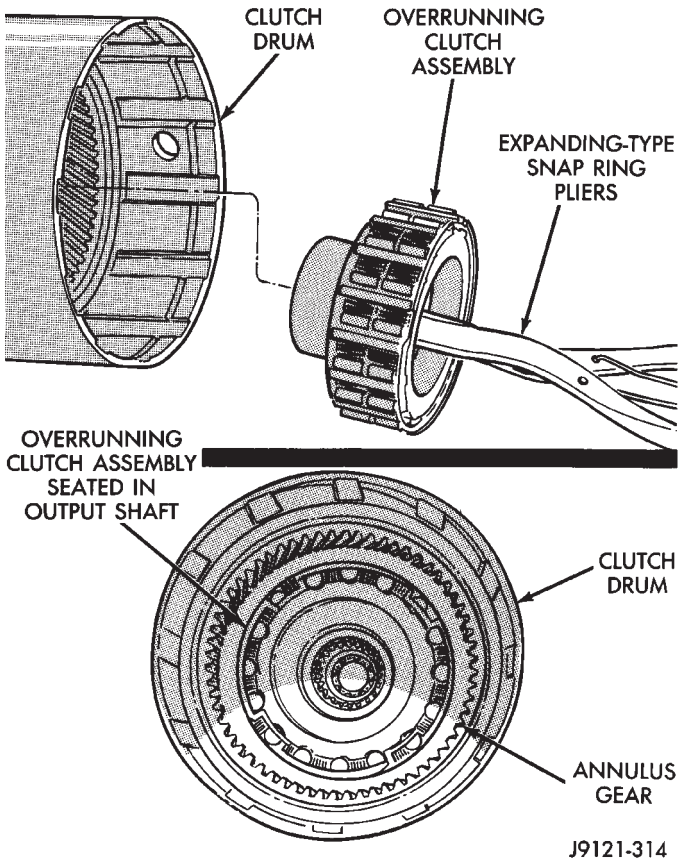

Fig. 332 Overrunning Clutch Installation
(11) Install overrunning clutch (Fig. 332). Insert snap ring pliers in hub splines. Expand pliers to grip hub. Then install assembly with counterclockwise, twisting motion.